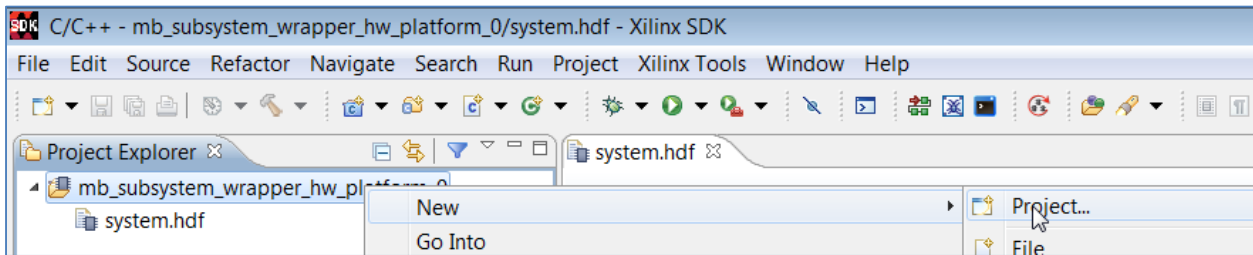

Figure 138: SDK New Project Selection
1. In SDK, right-click **mb\_subsystem\_wrapper\_hw\_platform\_0** in the Project Explorer and select **New > Project**, as shown in Figure 138.